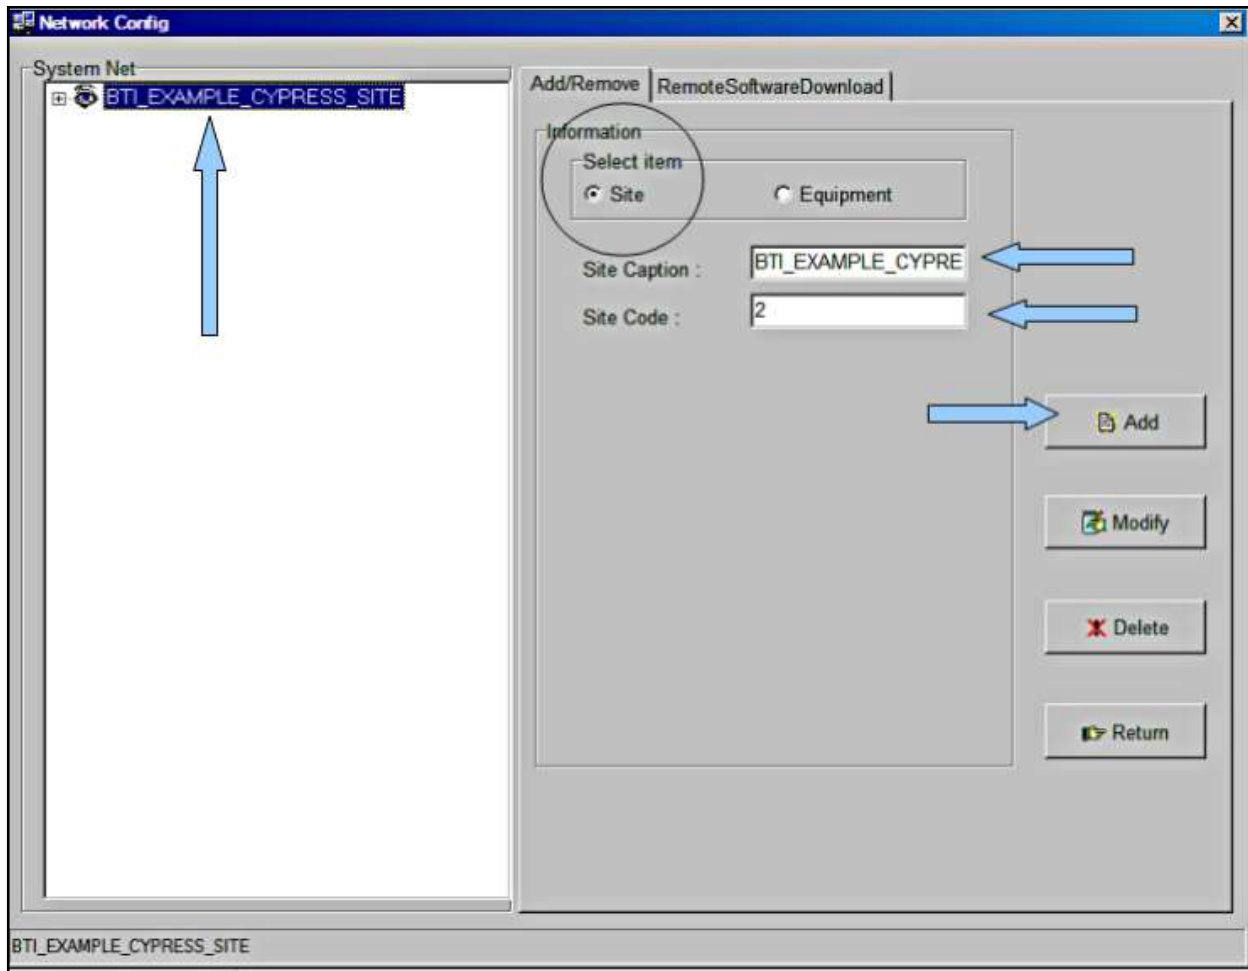

Figure 5-8 Adding a Site
3. Enter the *Site Caption* (Customer defined Site Name) and the *Site Code* (Customer defined Site Number). The example, BTI_Example_Cypress_Site is shown in **Figure 5-8**.